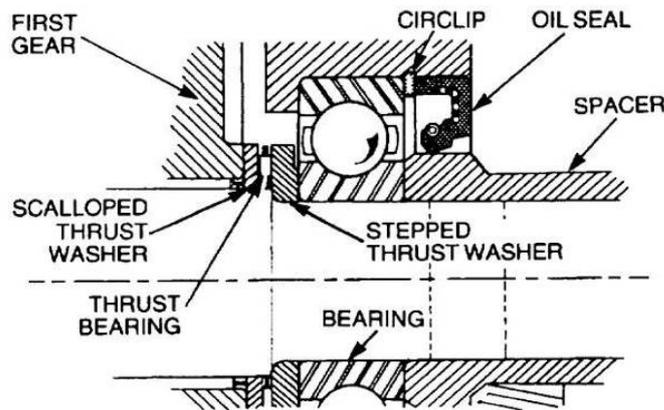

Figure 185 Installation of the Mainshaft and the Rear Spacer
- t. Push the mainshaft fully into the bearing ensuring that the stepped washer bearings and thrust washers are correctly located. Install the mainshaft rear spacer on the shaft and positioned in the seal. Fit the transfer gear (Figure 185).